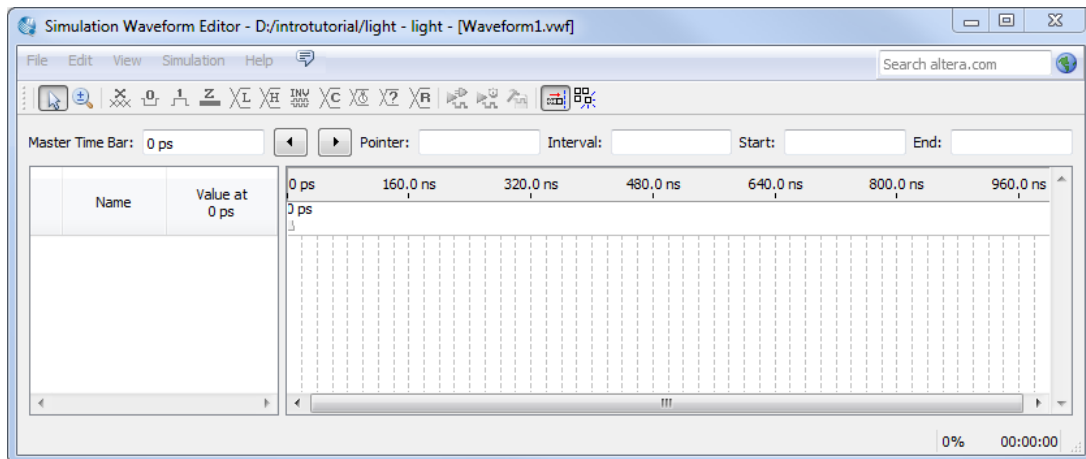
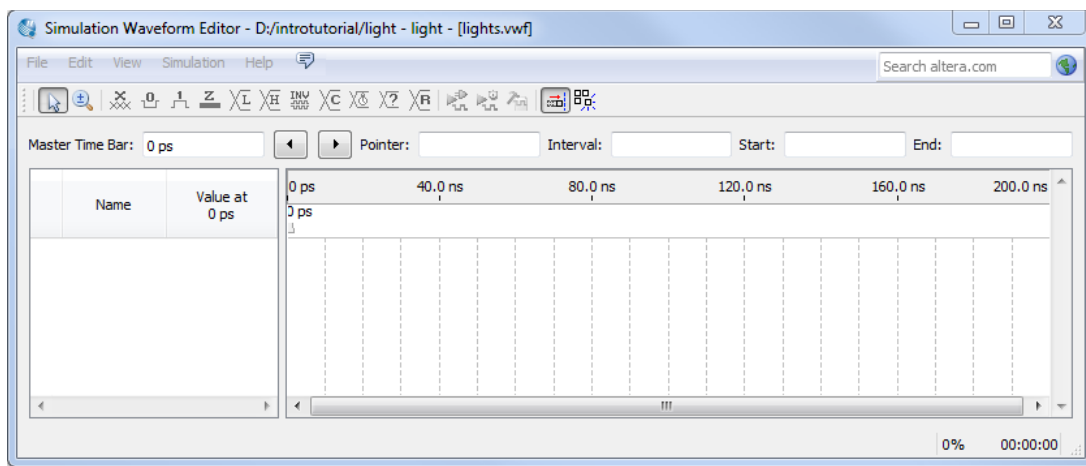

Figure 31. The Waveform Editor window.
Figure 32. The augmented Waveform Editor window.
2. The Simulation Waveform Editor window is depicted in Figure 31. Save the file under the name *light.vwf*; note that this changes the name in the displayed window. Set the desired simulation to run from 0 to 200 ns by selecting **Edit > Set End Time** and entering 200 ns in the dialog box that pops up. Selecting **View > Fit in Window** displays the entire simulation range of 0 to 200 ns in the window, as shown in Figure 32. You may wish to resize the window to its maximum size.